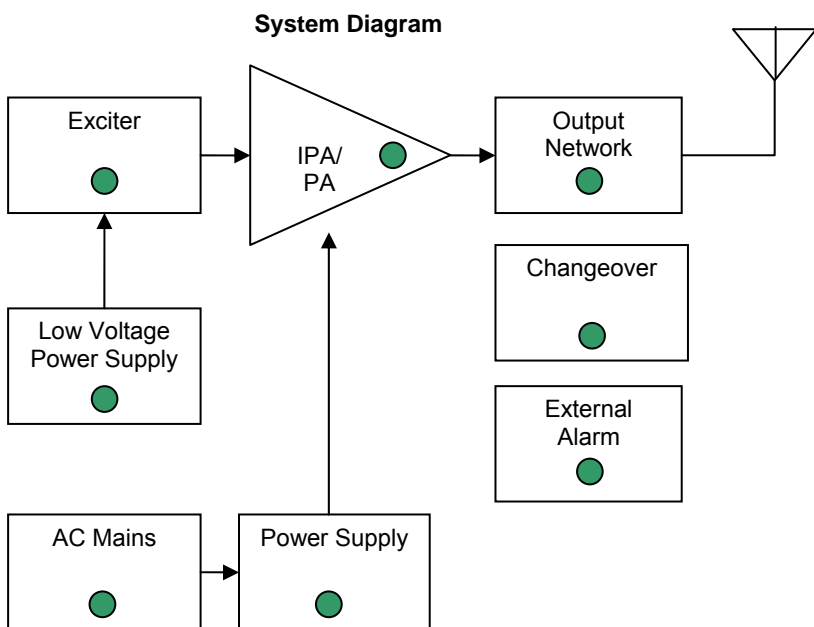

Figure 3-2 Vector-LP Transmitter Front Panel - System Diagram Section
- **System Diagram** - a simple block diagram of the transmitter complete with alarm lamps. Refer to Figure 3-2 and Table 3-1 for a description of the controls and indicators.